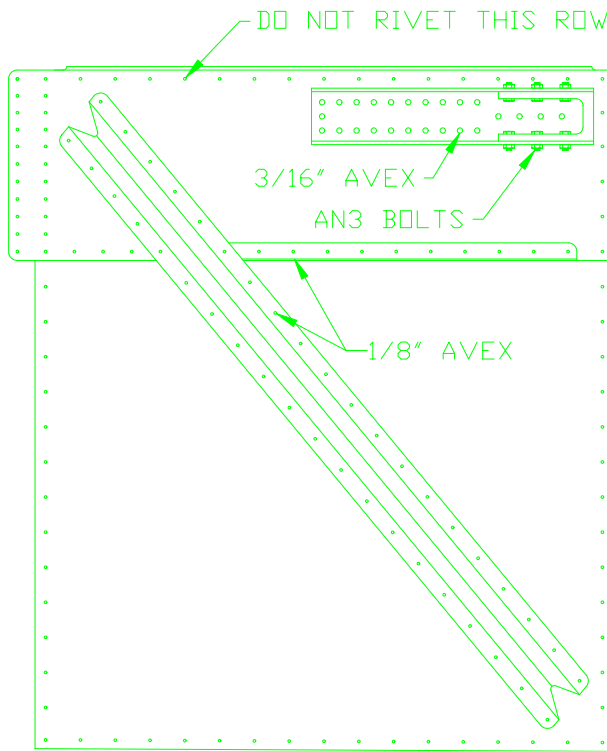

FIGURE 27
46) Rivet the front side skins, doublers, 5/8 angle, witches hat and engine mount brackets together with appropriate avex rivets. Figure 27.